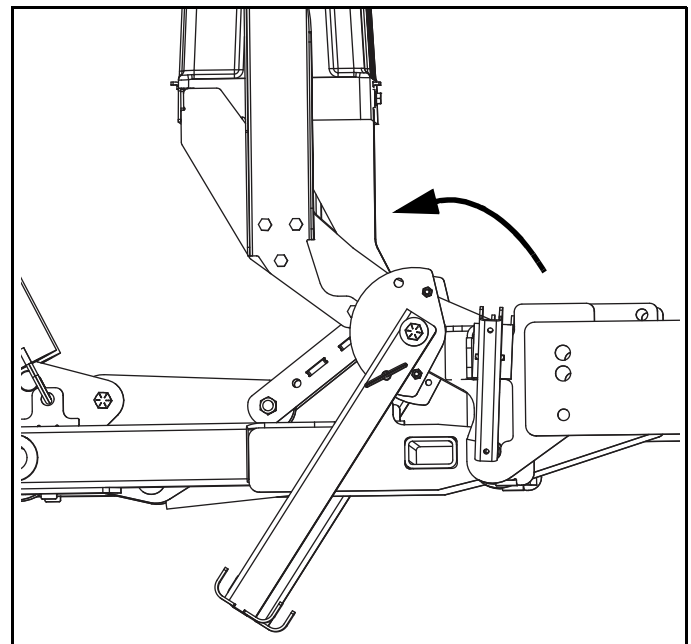

Figure 1-23
6. Rotate jack stand down and raise A-frame by pressing the up function (See Figure 1-23).